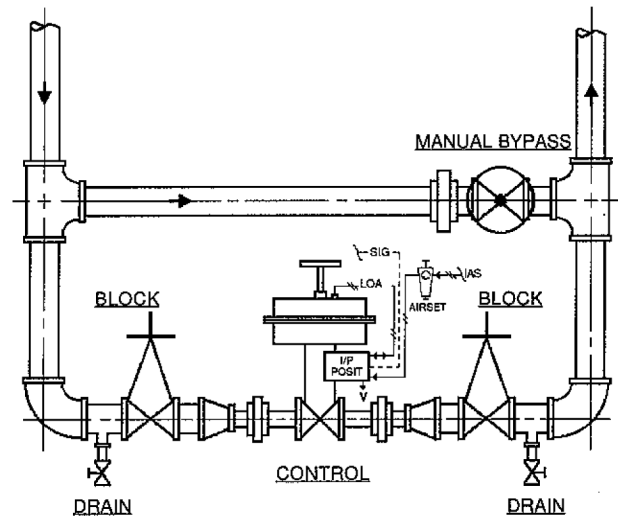

Figure 5: Double-block and Bypass Arrangement
2. Recommend startup to be in a "manual" mode. This procedure assumes double block (isolation) and bypass valves for the "control valve station". See Figure 5.